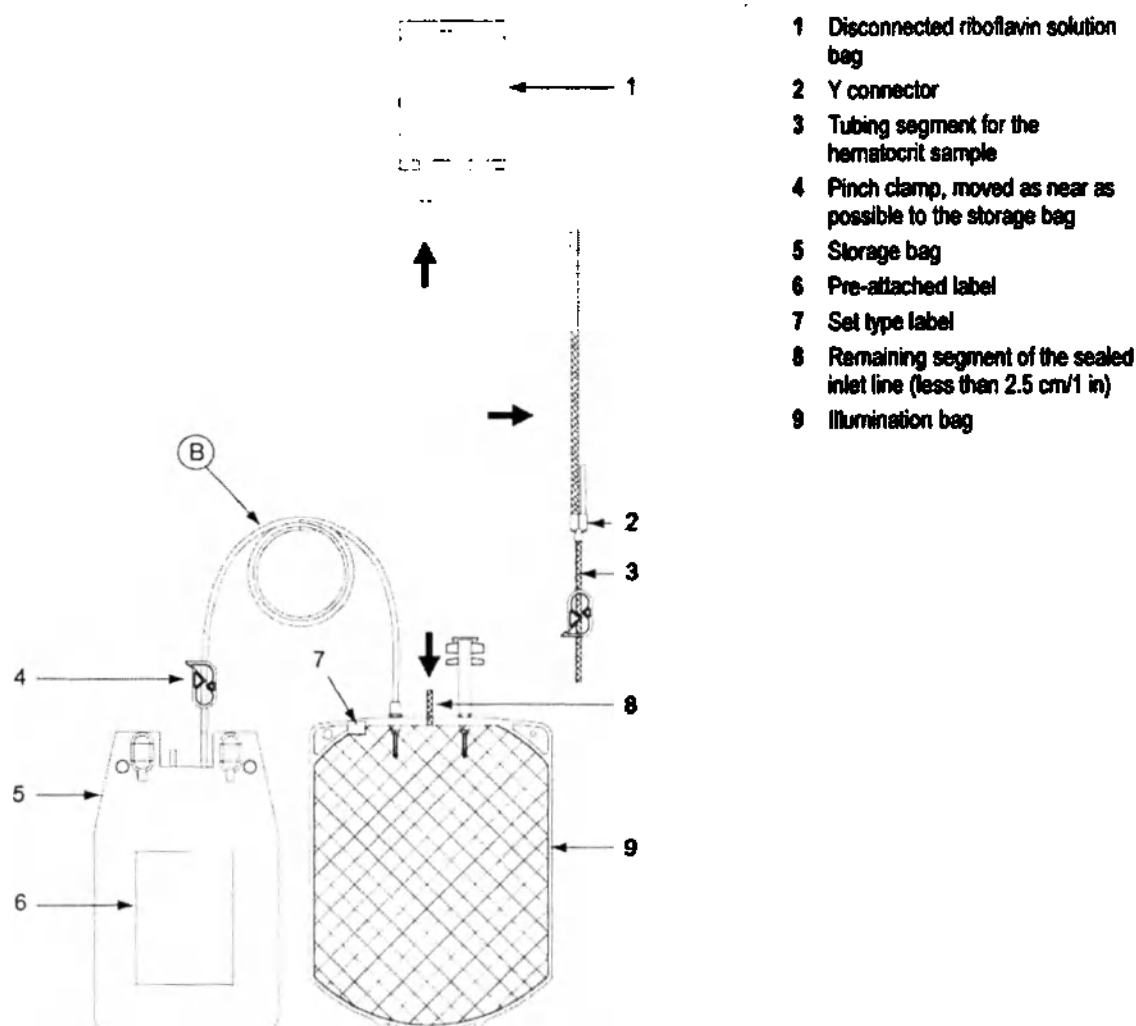

Figure 8: Sealing and disconnecting the riboflavin solution bag and the hematocrit sample segment
10. Permanently seal the inlet line just below the riboflavin solution bag using a tubing sealer device (see Figure 8).
12. Permanently seal the inlet line as near as possible to the illumination bag, using a tubing sealer device. The sealed inlet line must be less than 2.5 cm (1 in) long for proper fit into the Illuminator. Disconnect the tubing segment between the illumination bag and the riboflavin solution bag. (This segment is approximately 18 cm to 30 cm [8 in to 12 in] long. See Figure 8.) This segment will be used to collect a hematocrit sample.
14. Move the pinch clamp on the line between the storage bag and the illumination bag (Line (a)) so it is as near as possible to the storage bag (see Figure 8).